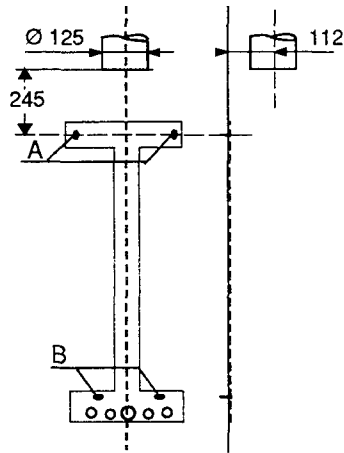

Fig. 28
Fig. 28 a
- Using bracket as template mark 4 fixing points (A) and (B).
- Drill 4 fixing holes (A) and (B) and plug.
- Fix bracket to wall using 6 mm x 50 mm wood screws provided (see fig. 28).
- Peel off protective paper from the adhesive side of the cork gasket (A) and place on the mating side of the flue adaptor.
- Position the square channelled rubber gasket (E) on the flue hood outlet of the boiler channel facing downwards into the boiler.
- Seat the flue adaptor on top of the boiler making sure that both gaskets are in place and secure the adaptor to the boiler by the 4 screws provided, utilizing the 2 right hand screws to fix the pressure switch support (D).
- Connect the small silicon tube between the adaptor connection (C) and the low pressure connection on the pressure switch (D) (see fig. 28 a).